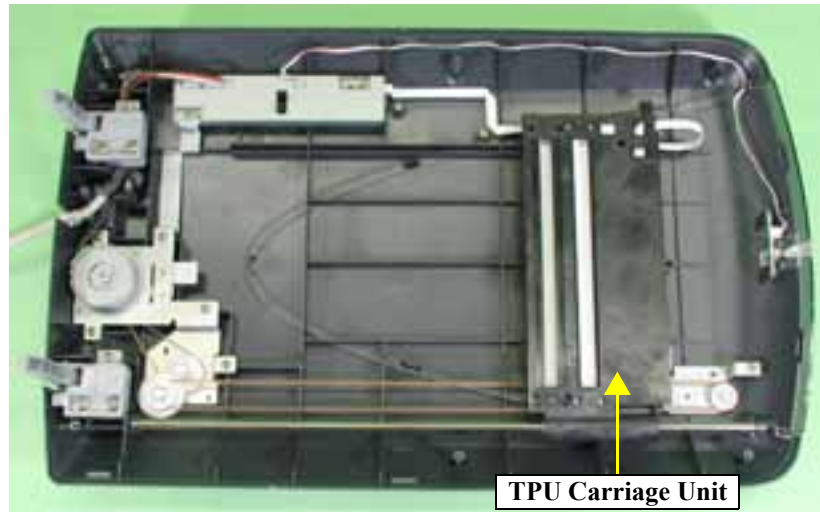

Figure 4-44. Moving TPU Carriage Unit
2. Move the TPU Carriage Unit to the position shown in Figure 4-44.